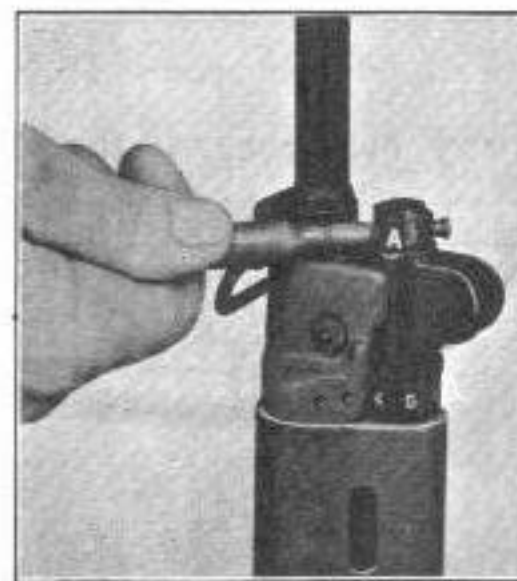

Fig. 42
e) **To remove the gas plug**, press in the plunger (fig. 42) of the gas plug, using the nose of a cartridge, turn gas plug a quarter turn clockwise (fig. 43).